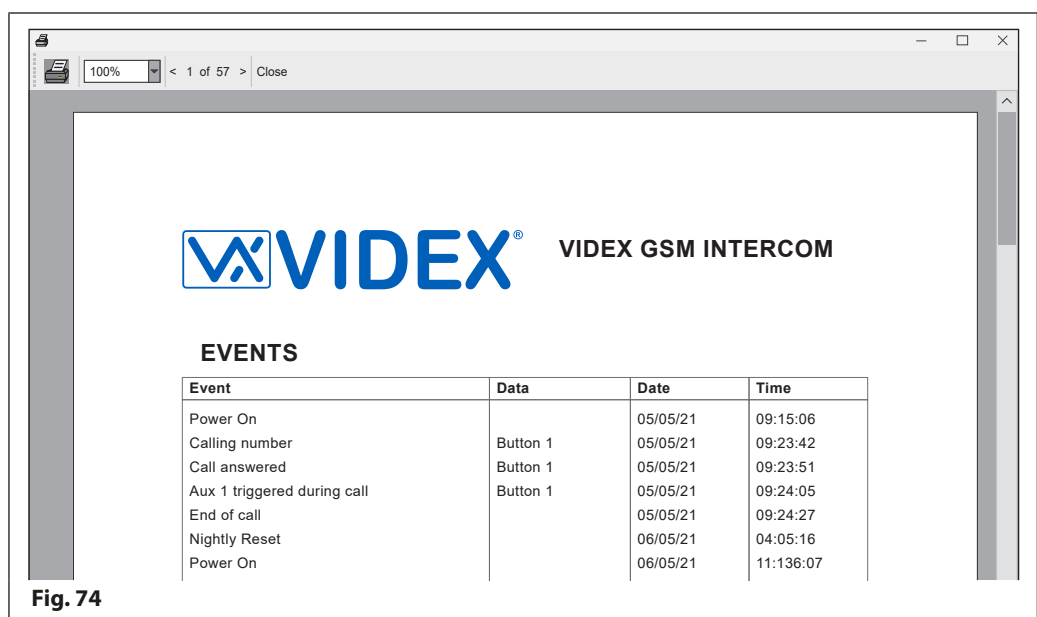

Fig. 74
- After a brief delay the print window will appear, see Fig.74, displaying the list of events. Use the left (<) and right (>) buttons at the top of the window to scroll through the pages of events.